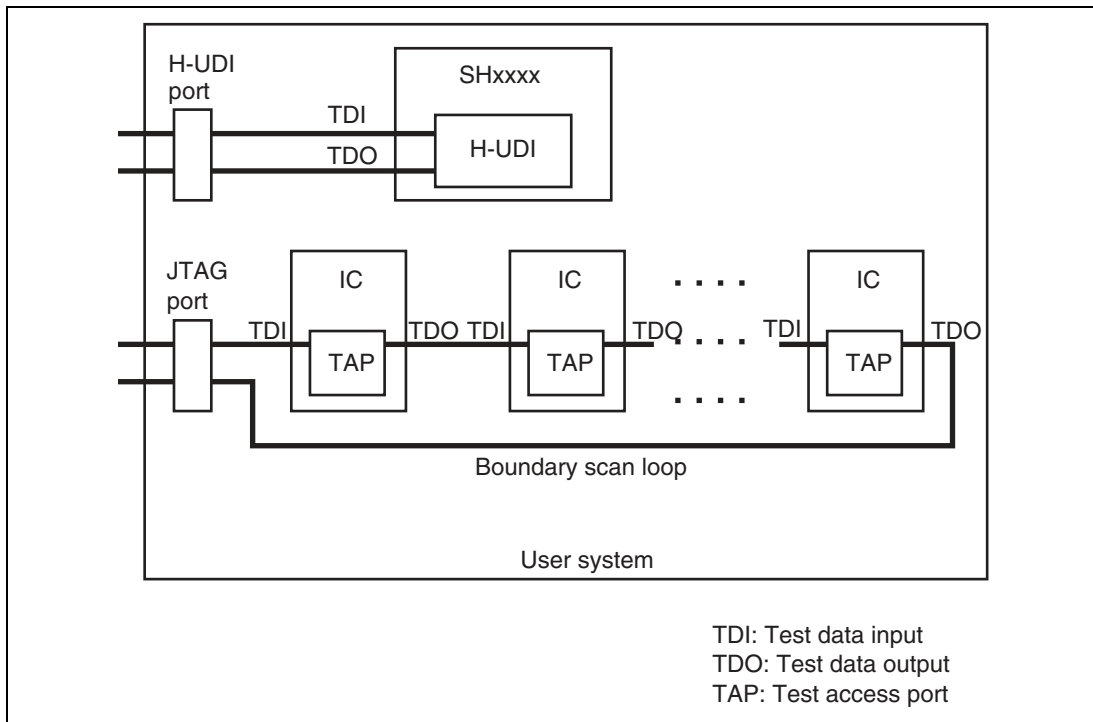

Figure 3.11 User System Example
5. When developing user systems, do not connect the TDI and TDO signals of the device to the boundary scan loop, or separate them by using a switch (figure 3.11).